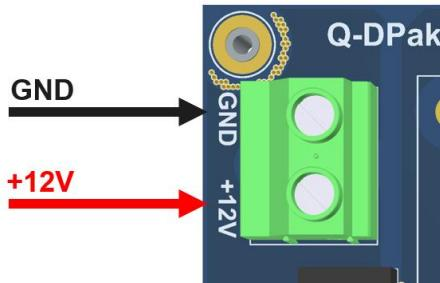

Figure 5 Supply 12 V on connector “X0” as shown above
- Supply the 12 V DC (low voltage; LV) on the X0 terminal. Ensure the correct polarity as shown in Figure 5